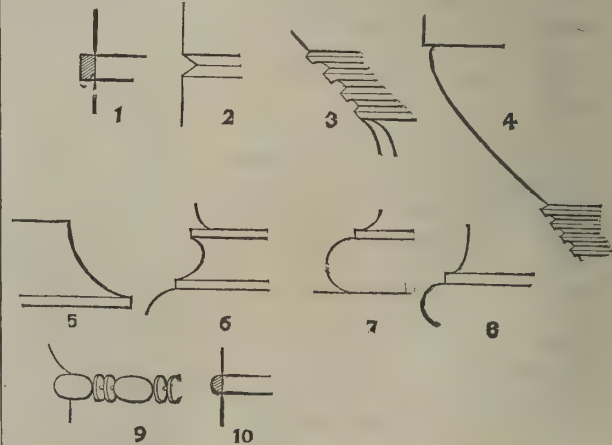

Fig. 7.
B. *Annular Mouldings*.—(Fig 7.) Only employed for the caps and bases of circular columns.